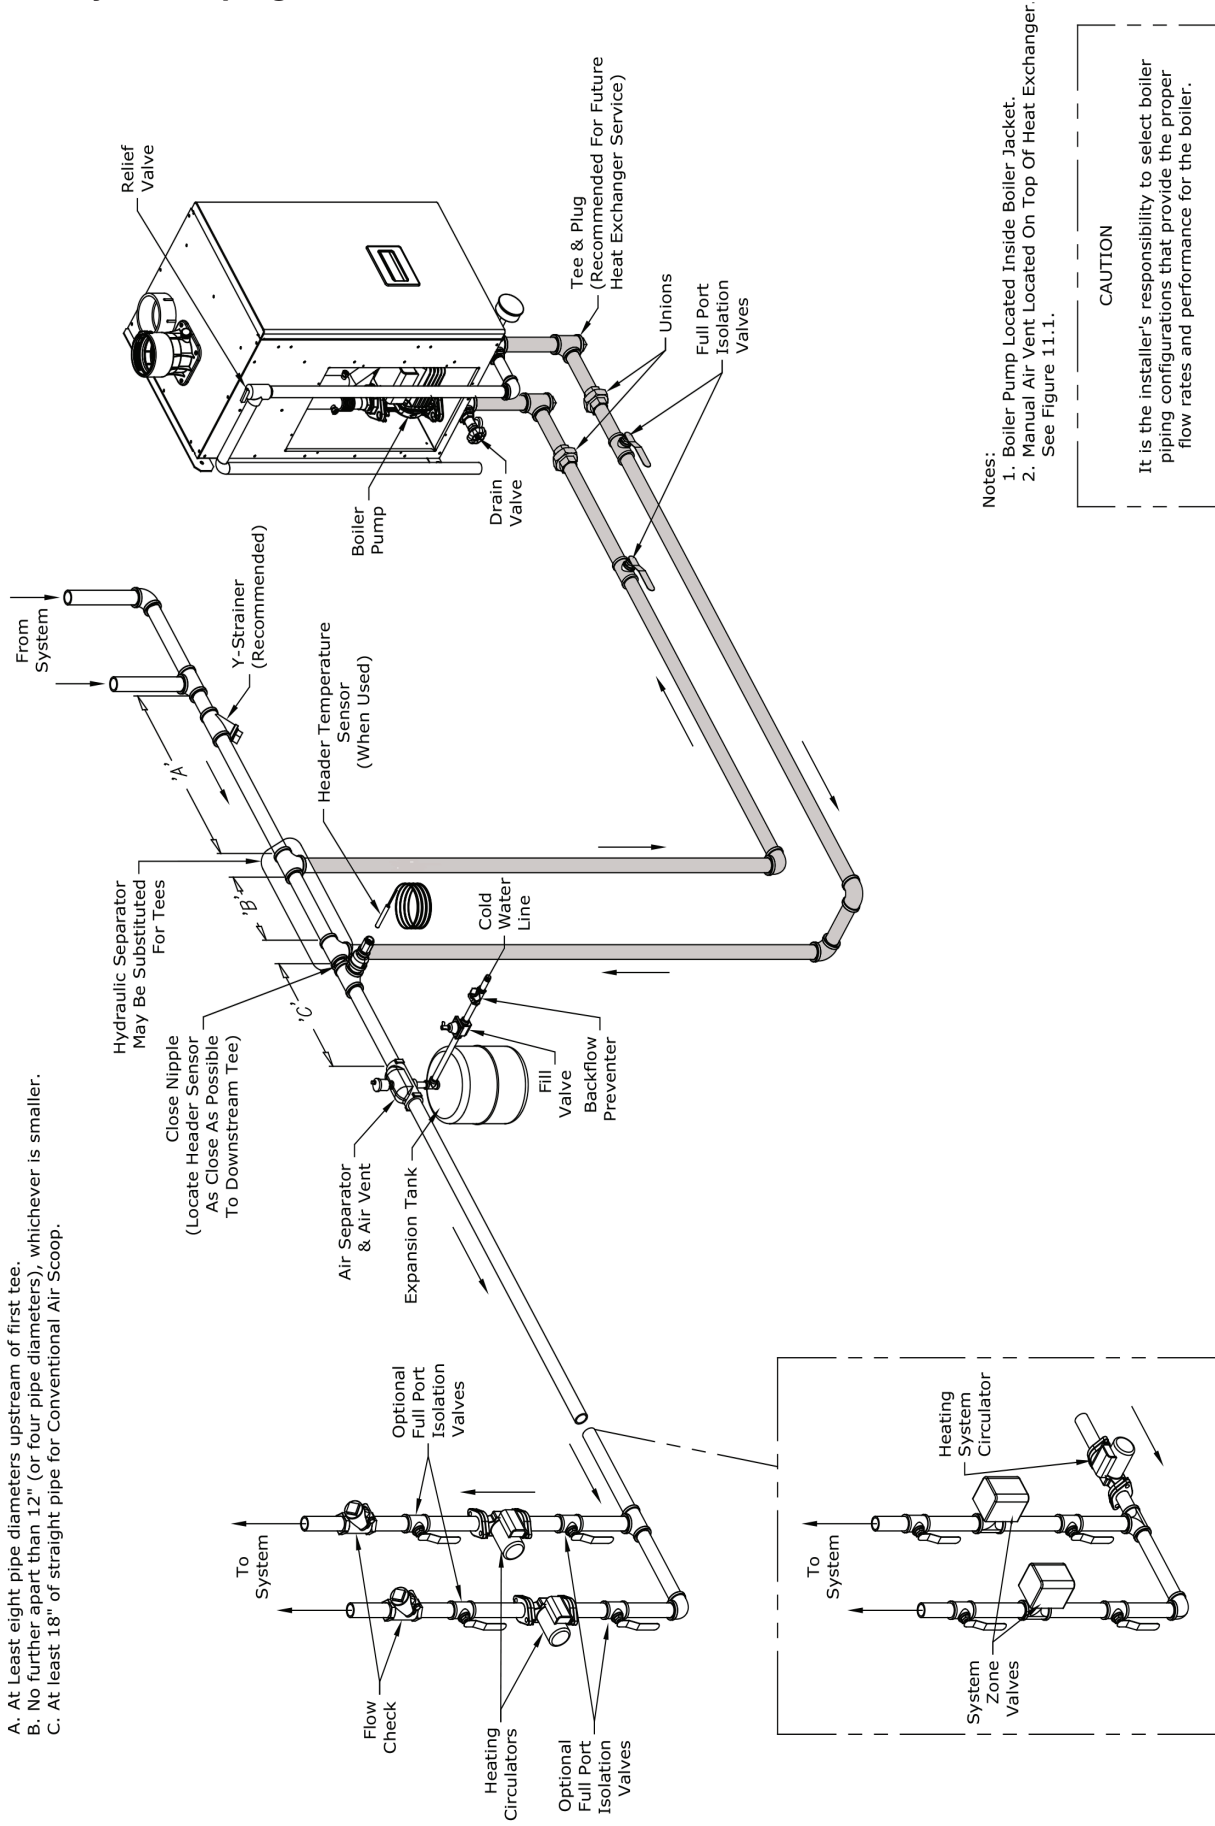

Figure 9.6: Piping Method #1 - Near Boiler Piping - Shaded Boiler Loop
- a. Count all fittings in the planned boiler loop (the shaded piping in Figure 9.6). In doing so, do not count the secondary connection tees, unions, or the fittings supplied with the boiler (these have already been accounted for).
Example - A 120MBH model is to be connected to a heating system as shown in Figure 9.6. A total of 20 ft of straight pipe will be installed between the boiler and the system loop.
Count all fittings in the boiler loop (shaded in Figure 9.6)